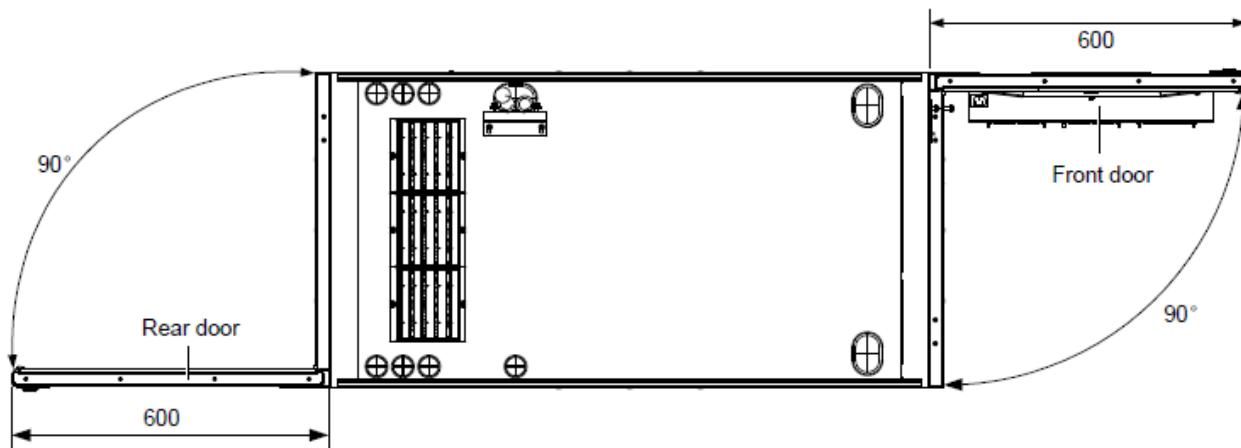

Figure 2-12 Required clearance for opening the front and rear door (Top view, unit: mm)
- The required clearance for opening the front and rear door is depicted in Figure 2-12.